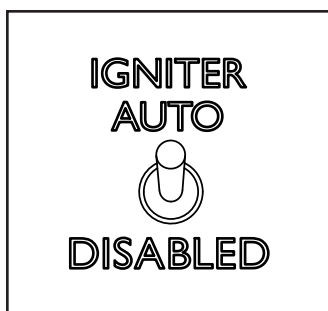
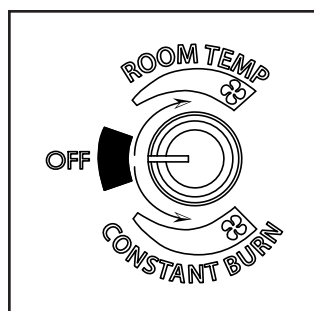

Figure 4.3
Figure 4.4
4. Flip toggle switch to desired mode "Auto or Disabled". Figure 4.3. Set feed limit knob to desired setting and turn mode dial to "Room Temp" or "Constant burn" Figure 4.4.